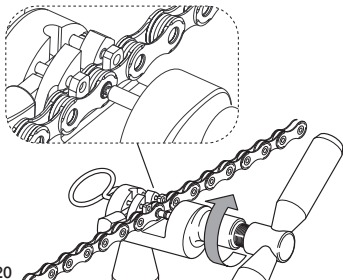

Fig.20
- Screw in the tool to bring the pusher into contact with the protruding end of the ULTRA-LINK 5-CN-SR700 bush, turning it by about  $\frac{3}{4}$  of a turn and exerting moderate force till distorted (Fig. 20).